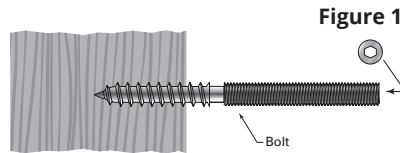

Figure 1
1. Install the Adjust-A-Body® with Hanger Bolt by driving the hanger bolt / lag end into the pre-drilled pilot hole in your end post using a 5/32" hex wrench in the hex-broached end of the hanger bolt. (Figure 1)